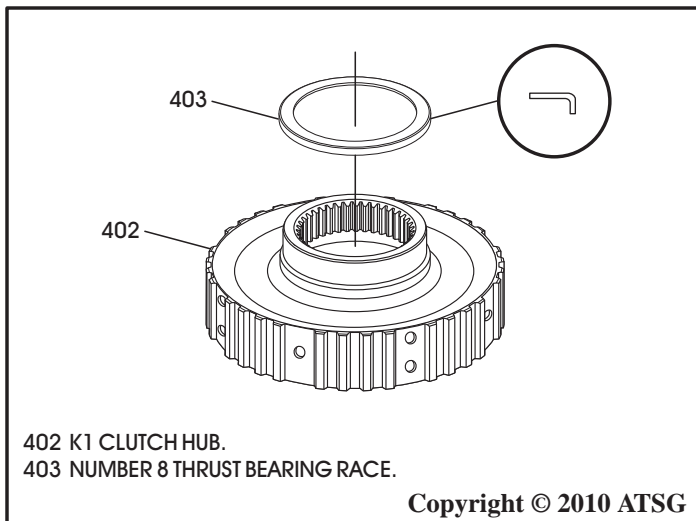

Figure 119
Note: Number 8 thrust bearing race installs on K1 clutch hub (See Figure 119).
9. Install number 8 thrust bearing race on the back side of K1 clutch hub, as shown in Figure 119, and retain with Trans-Jel®.